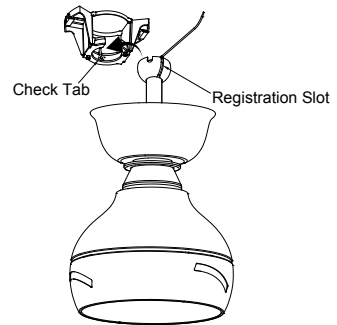

Fig. 8
Step 5. Now lift the motor assembly into position and place the hanger ball into the hanger bracket. Rotate until "Check Tab" has dropped into the "Registration Slot" and seats firmly. (Fig. 8) The entire motor assembly should not rotate.